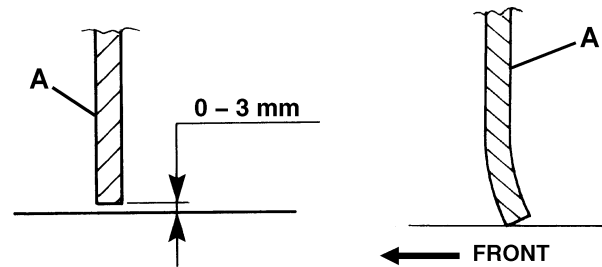

Figure 16
4. Check that distance from the ground of the side skirts (13 and 14) is within 0 – 3 mm (A, Fig. 16). If necessary, adjust the skirt height according to the following procedure.
- The distance from the ground of the rear skirt (A, Fig. 16) is within 0 - 3 mm (as shown in the figure).